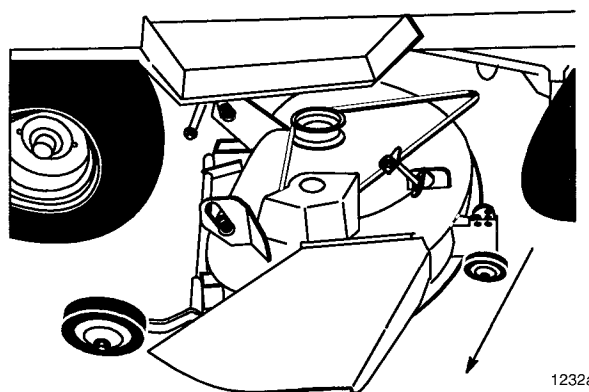

Figure 13
8. Turn the front wheels fully to the left and raise attachment lift lever all the way to the latched position; refer to tractor Operator's Manual. Slide the mower out from under the chassis to the right side (Fig. 13)